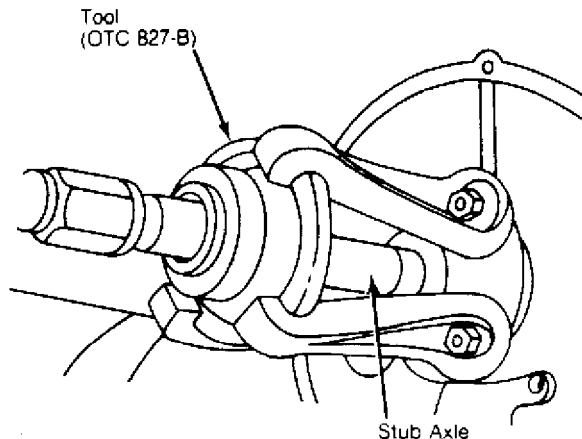

Fig. 4: Pressing Out Stub Axle
3) Press stub axle from hub. Check that there is sufficient clearance between inner CV joint and final drive housing. Remove axle assembly. See Fig. 4.